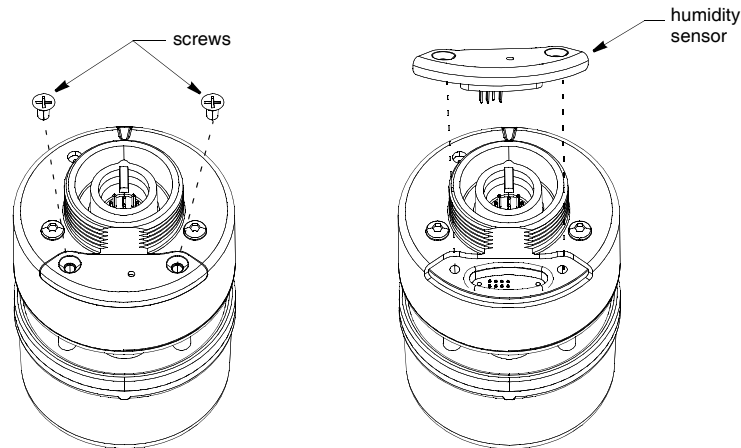

Figure 11. Replacing the humidity sensor
1. Remove the two screws from the humidity sensor or blank (see Figure 11).